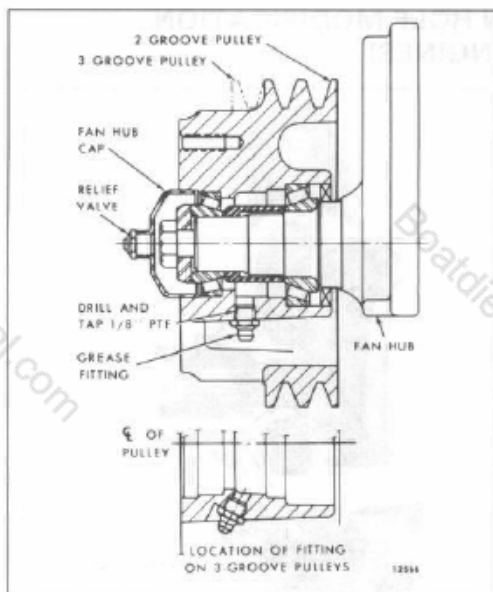

Fig. 1 - Location of Fan Hub Grease Fitting and Relief Valve
2. Drill and tap the fan hub, at the location shown in Fig. 1, to accept a 1/8"PTF x 11/16" threaded lubricator fitting. Clean the hub to remove any metal chips.
4. Install a new fan hub cap which is threaded for a relief valve (Fig. 1).